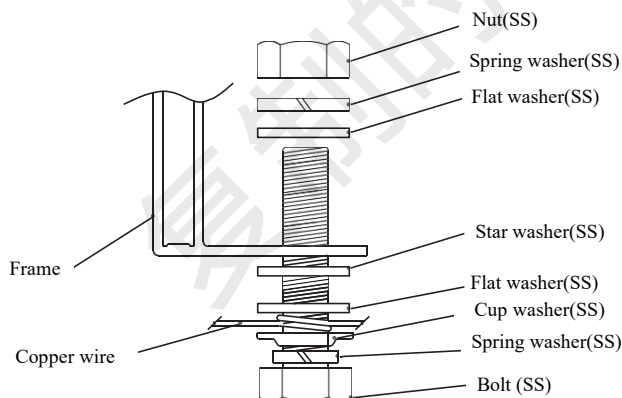

Figure 7
- The grounding bolts must be made of stainless steel and be used in the specified grounding holes. First, make the stainless steel bolt pass through the spring washer, cup washer, flat washer, and star washer, and then insert through the grounding hole, flat washer and spring washer on the frame. Finally, tighten with a nut. Caution: The upper limited temperature of the conductor is 85 °C . As for the installation, refer to Figure 7.